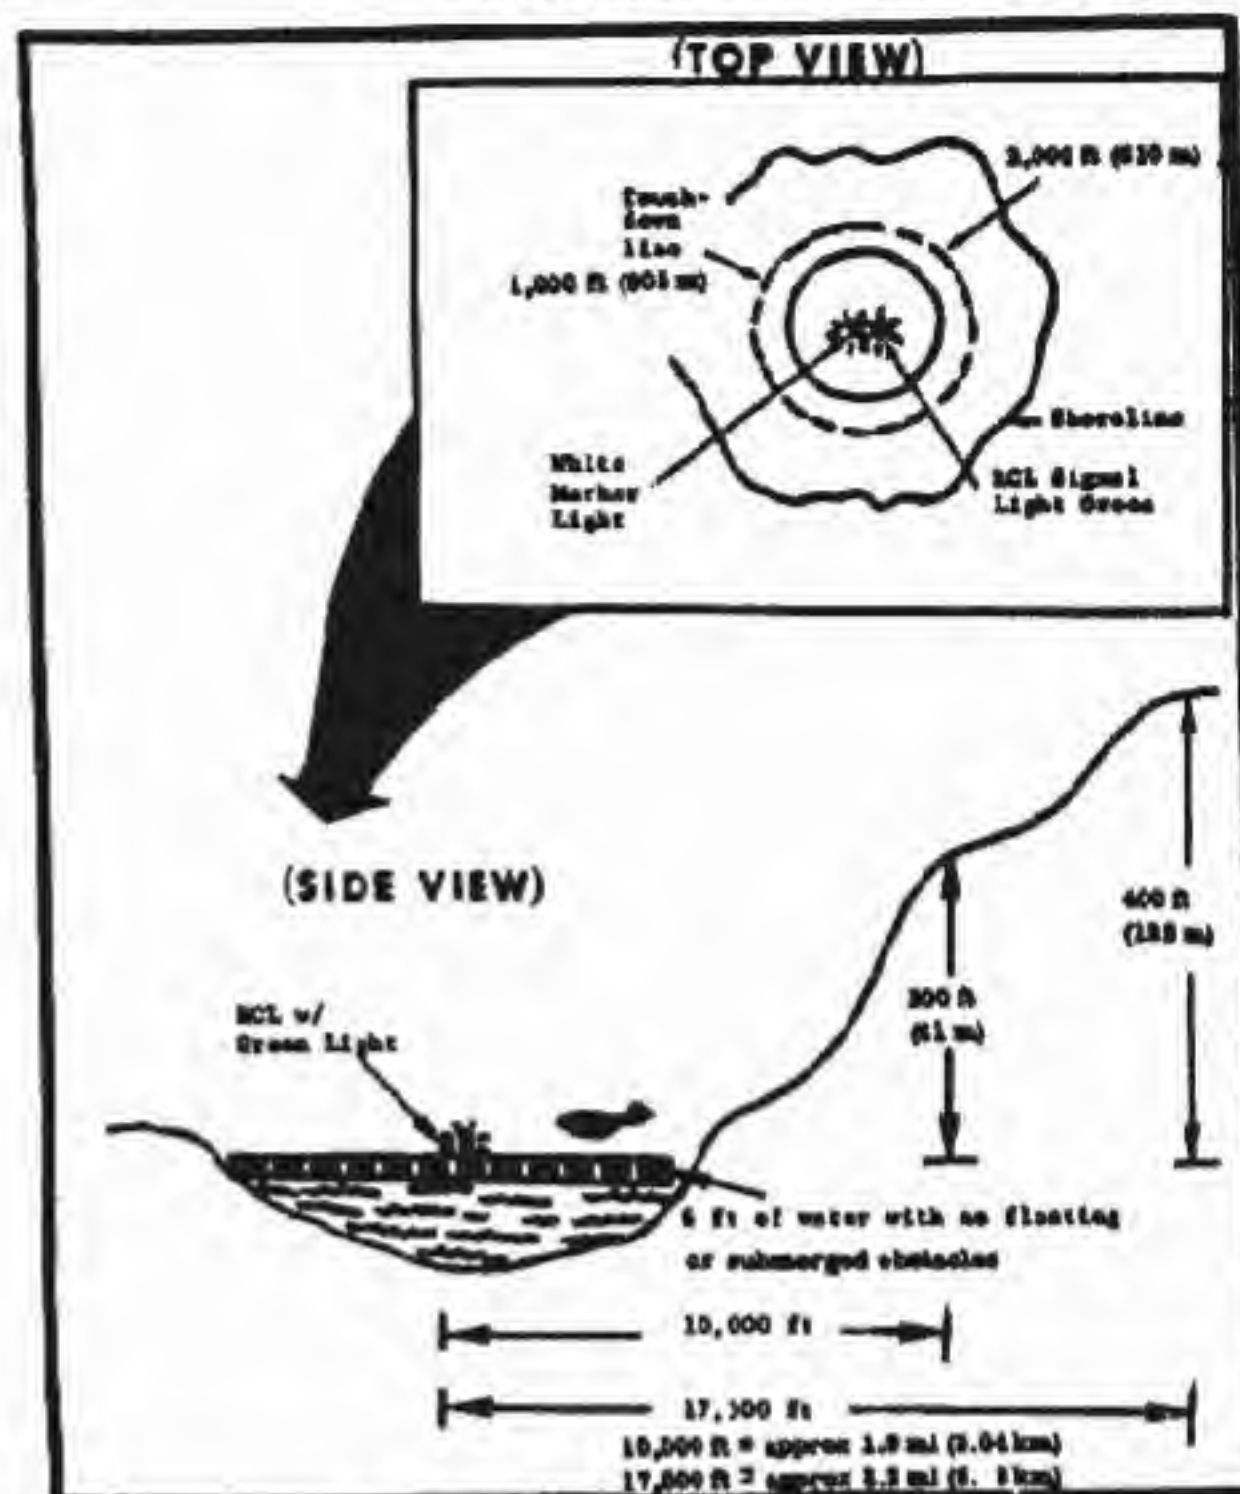

Figure 18. One Night wren landing some (night).
- (1) Size. For medium amphibious or seaplane-type aircraft, the required length is 4,000 feet (1,220 meters) with a minimum width of 1,500 feet (460 meters). For light aircraft, the required length is 2,000 feet (615 meters) long and 500 feet (155 meters) wide. As with land LZ's, an additional safe area equal to 10 percent of the airstrip length is required on each end. (Figure 18)
- (2) Surface. Minimum water depth is 6 feet (2 meters). The entire landing zone must be free of obstructions such as boulders, rock ledges, shoals, waterlogged boats, or sunken pilings within 6 feet of the surface, and the surface must be cleared of all floating objects such as logs, debris, or moored craft.
- (3) Wind.
- (4) Tide. The state of the tide should have no bearing on the suitability of the landing area.
- (5) Water/air temperature. Due to the danger of icing, water and air temperatures must conform to the following minimums: